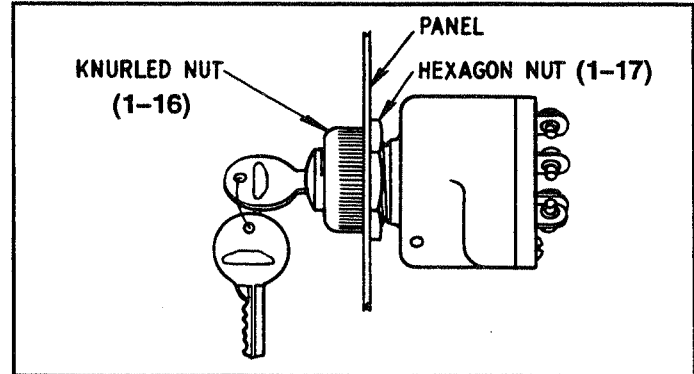

Figure 7. Side View of Mounted Switch
- F. Tighten round knurled nut (1-16) over threaded portion of switch. If possible secure switch firmly in place by tightening hex nut (1-17) against rear of panel. Complete assembly is shown in Figure 7.